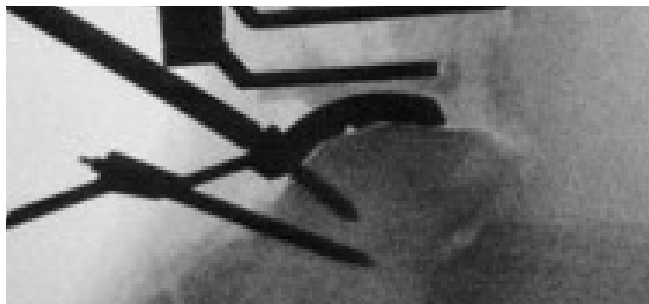

Fig. 31
2.20 The fixation screw can be placed in the central slot to ensure the RPG is fully seated with the screw head recessed (Fig. 31).